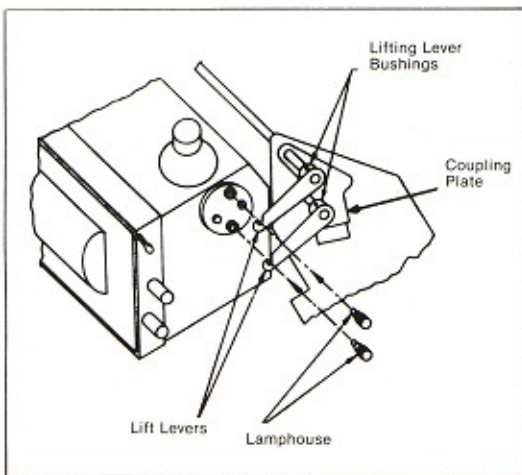

Figure 2. Mounting of Dichroic Lamphouse
4. Swing lifting lever arms forward so that slots in all four arms engage knurled screws fully, thus attaching lamphouse to lifting levers. (see figure 2) Screw down knurled screws fully so that shoulders on screws fit into slots of lifting levers.